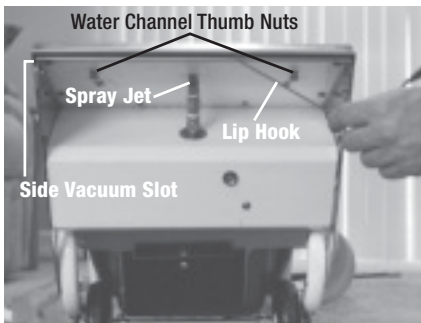

Figure 26: Cleaning Vacuum Shoe
C. Keep Vacuum Shoe (fig. 26) Clean
8. Clean vacuum shoe with shoe hook (figure 26).